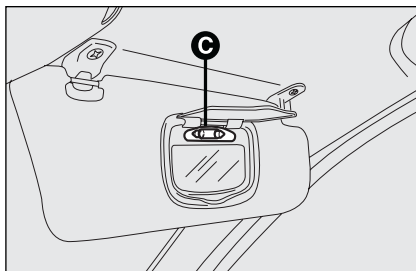

fig. 50
- replace the bulb **C**-fig. 50 releasing it from the side contacts making sure that the new bulb is correctly clamped between the contacts.